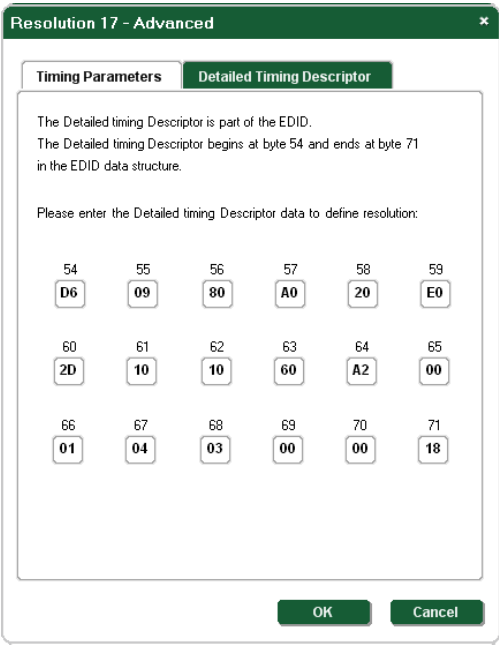

Figure 12: User Defined Resolution Advanced Window–Detailed Timing Descriptor Tab
6. Click **OK** to accept the changes or click on the **EDID** tab to edit the EDID values as shown in Figure 12.